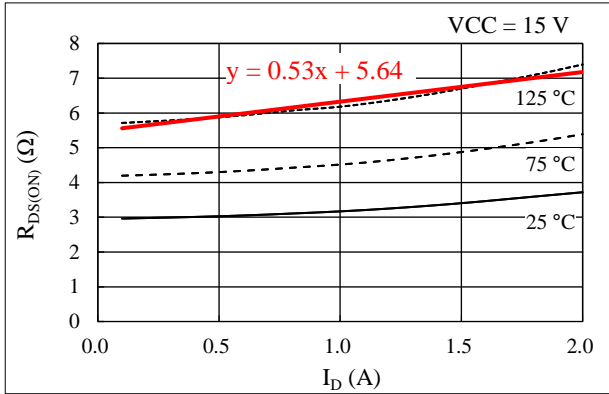

Figure 14-2. Linear Approximate Equation of $R_{DS(ON)}$ vs. I_D
Steady-state loss in a power MOSFET can be computed by using the R_{DS(ON)} vs. I_D curves, listed in Section 15.3.1. As expressed by the curves in Figure 14-2, a linear approximation at a range the I_D is actually used is obtained by: R_{DS(ON)} = α × I_D + β. The values gained by the above calculation are then applied as parameters in Equation (7), below. Hence, the equation to obtain the power MOSFET steady-state loss, P_{RON}, is: